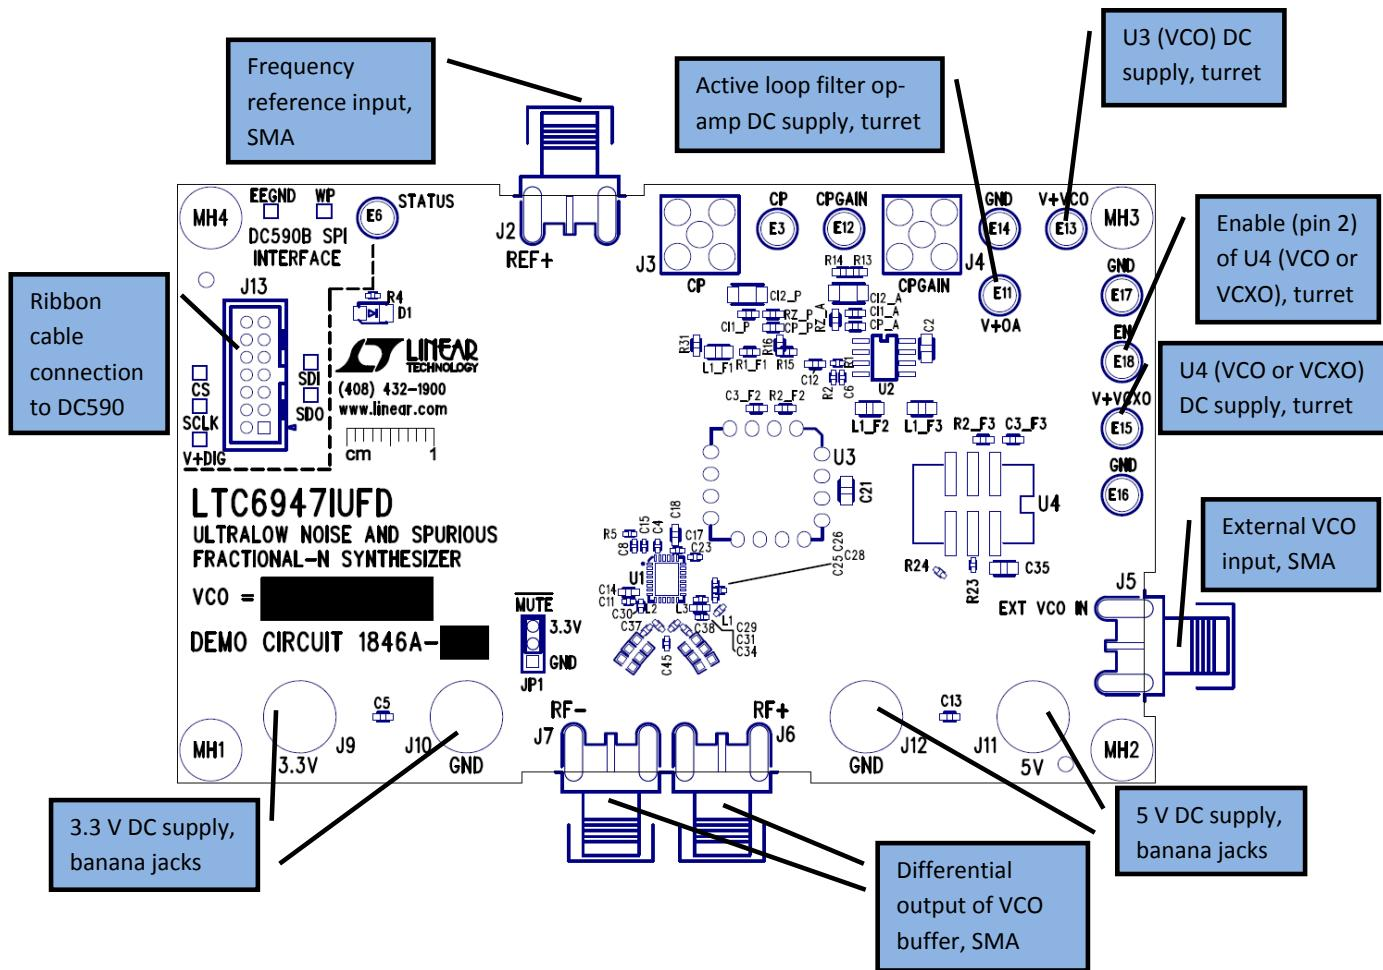

Figure 1. DC1846A Connections
1. Connect a 100MHz reference frequency source (at J2) and signal analyzers to RF+ and/or RF- (at J6 and/or J7) using the SMA connectors (see Figure 1 and the Typical DC1846A Requirements and Characteristics table).
3. Connect the GND, 3.3V, 5V banana jacks and the V+VCO turret to a power supply and apply power (see Figure 1 and the Typical DC1846A Requirements and Characteristics table).